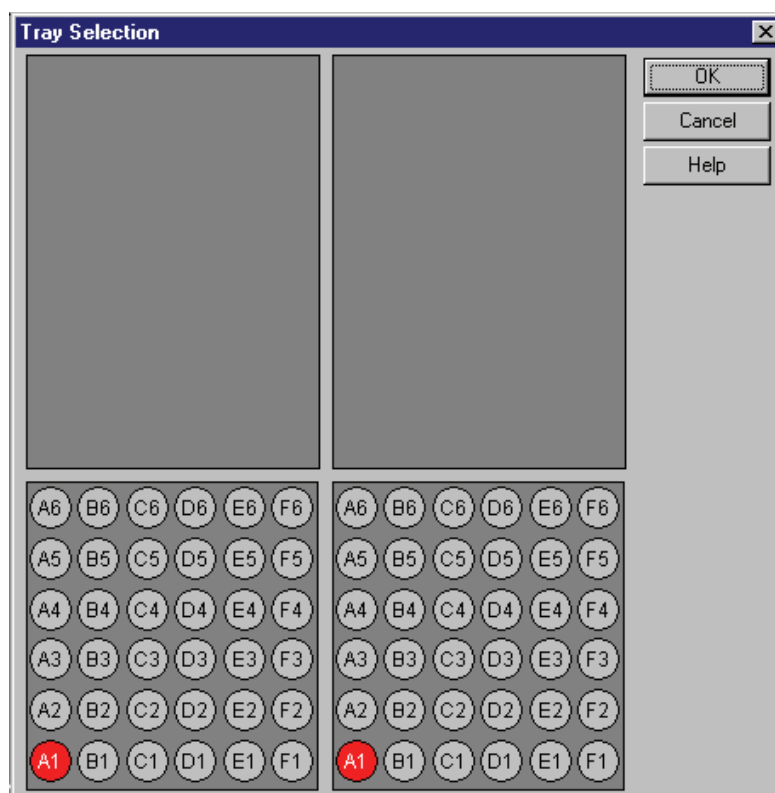

Figure 4.3 Tray Selection Dialog
- To select the positions, click the **Trays** button to open the Tray Selection dialog (shown in Figure 4.3).